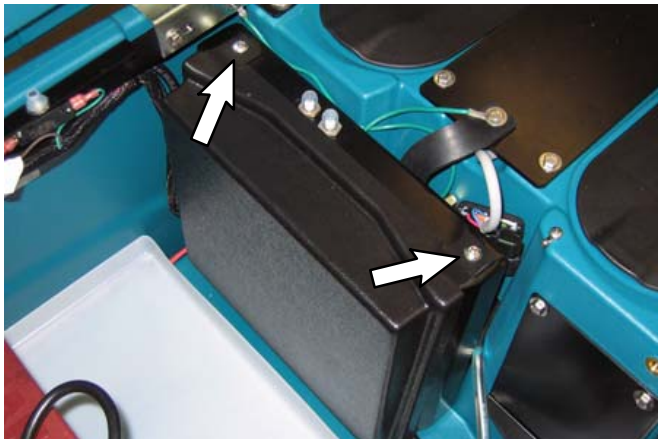

FIG. 13
14. Remove the cover from the electrical panel. Set the cover and hardware aside (FIG. 13).